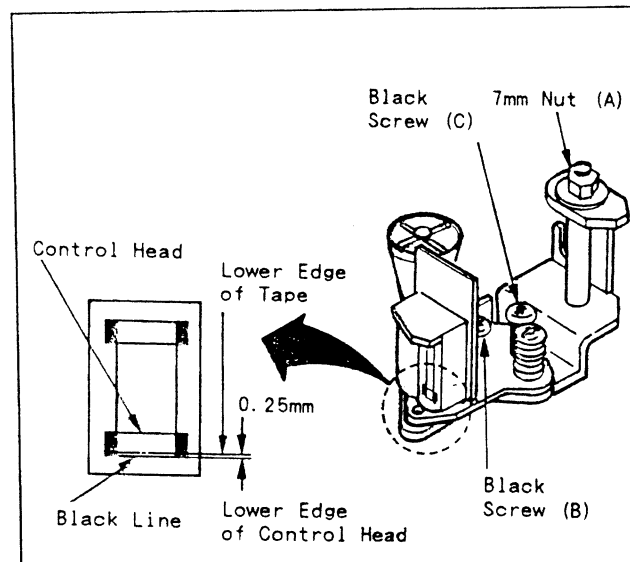

Fig. M14
2. If adjustment is required, turn Black Screw (C), in Fig. M14, clockwise until curling is apparent at lower edge of P4. Then turn Black Screw (C) counterclockwise until the curling smooths out.
3. Adjust Black Screw (B) on the head base in Fig. M14 so that the output level is at a maximum.
4. Readjust 7mm Nut (A) shown in Fig. M14 for maximum output.